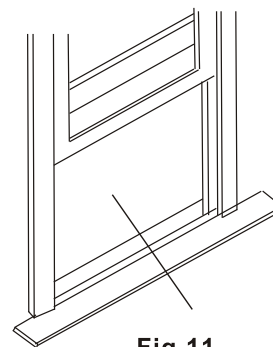

Fig.11
1. Open window and mark center of window sill as shown (Fig.11).